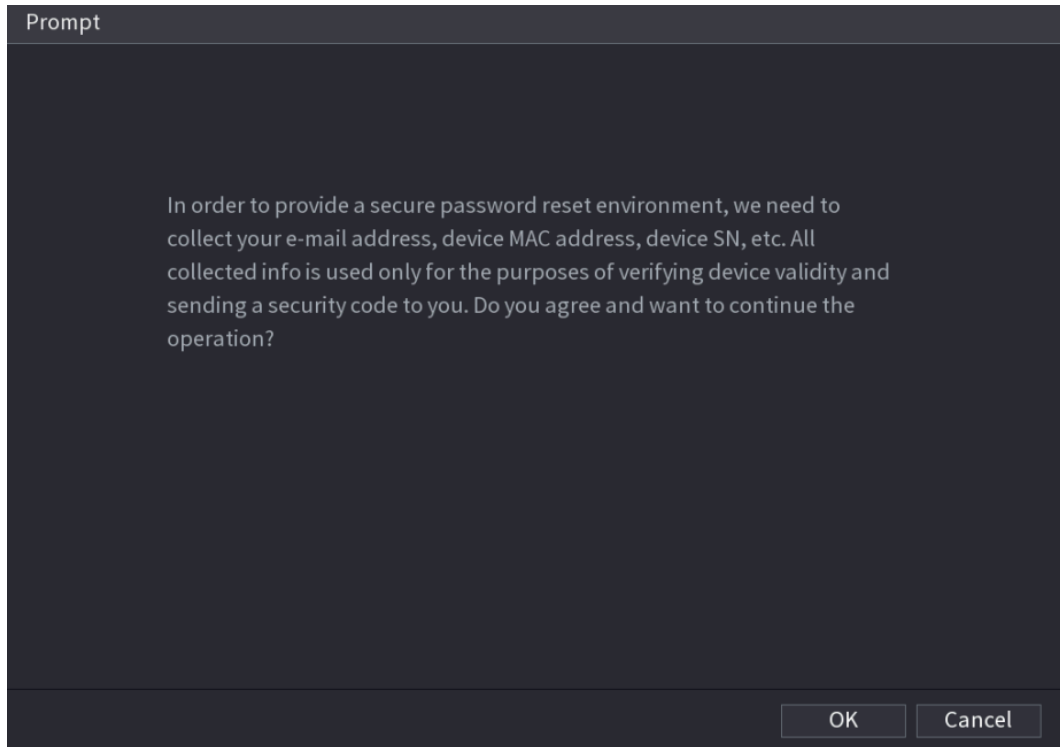
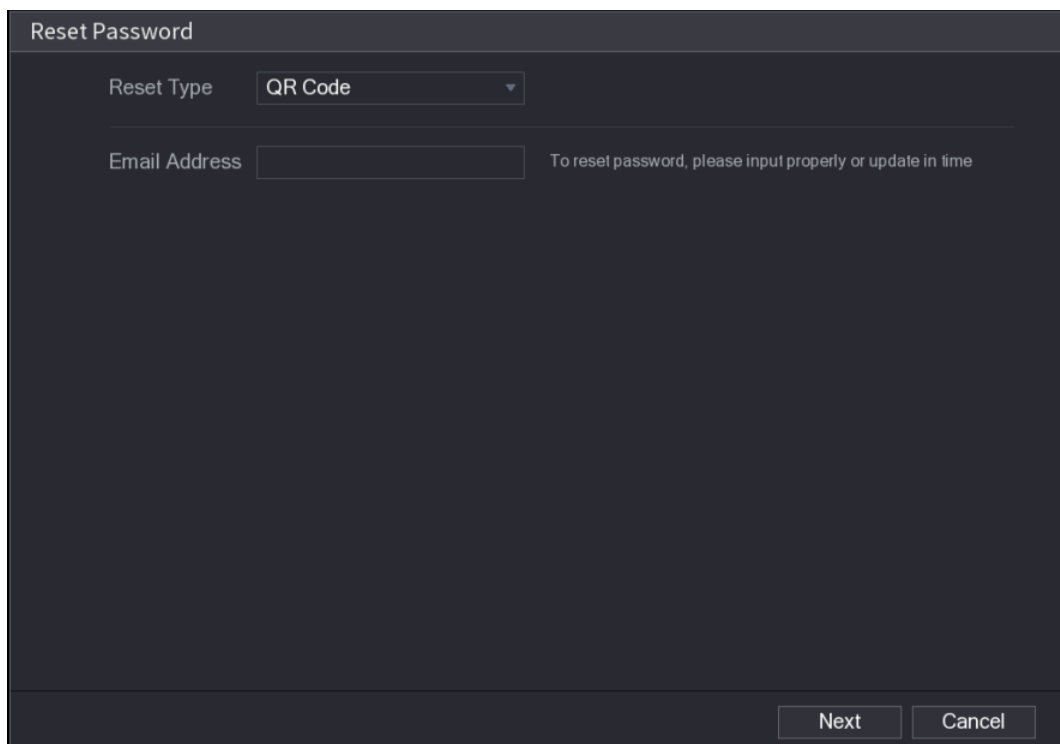

Figure 5-10
Figure 5-11
- If you have set the reserved email address, the **Prompt** message interface is displayed. See Figure 5-10.
- If you did not set the reserved email address, the email entering interface is displayed. See Figure 5-11. Enter the email address, and then click **Next**, the **Prompt** message interface is displayed. See Figure 5-10.
- 1) On the **Reset password** interface as shown in Figure 5-11, in the **Reset Type** list, select **Security Questions**, the Security Questions interface is displayed, see Figure 5-13.